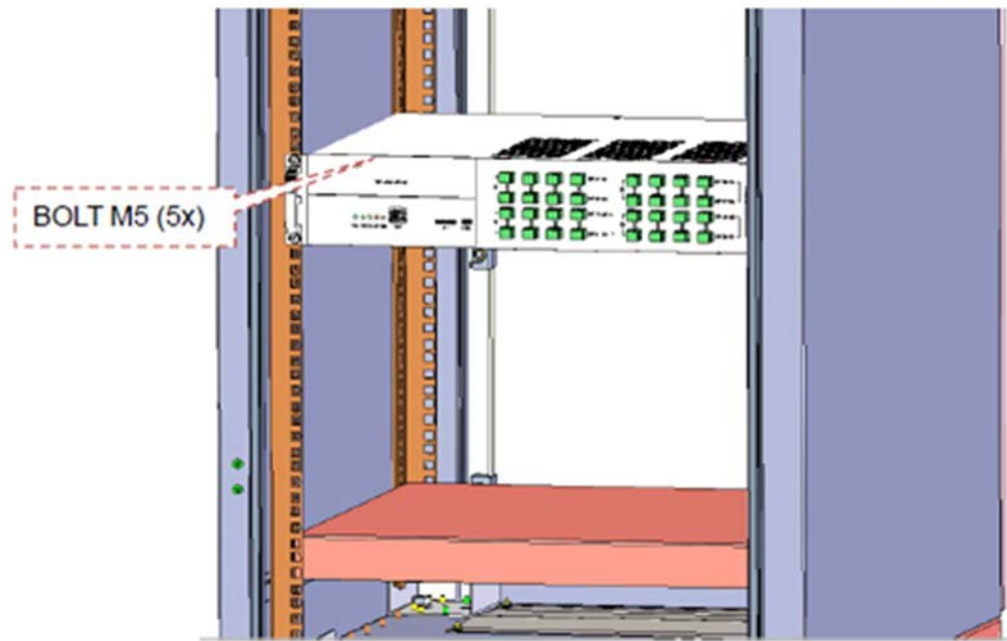

Figure 3-8 Use screw to mount IM2U
3. Use screw to mount IM2U, as shown in Figure 3-8.